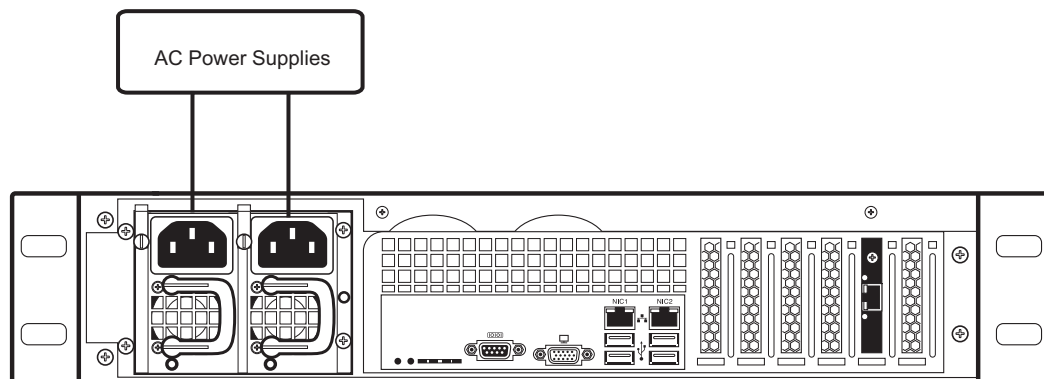

Figure 2.20 TMP6400-CTRL AC Power Connections
1. Connect the first power connector of the TMP6400-CTRL to the first power source. See Figure 2.20.